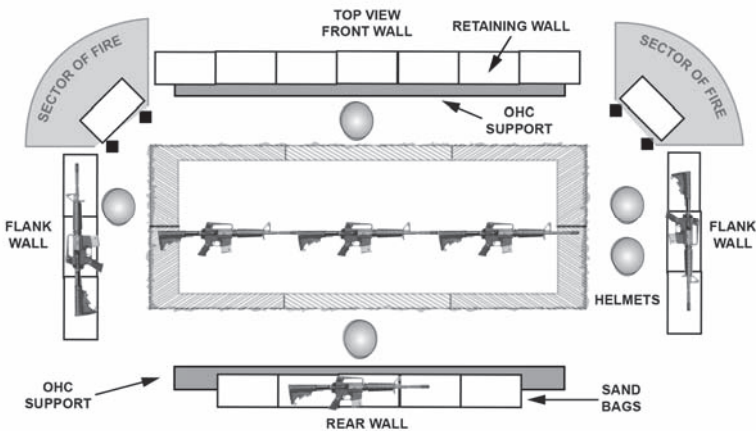

Figure 071-COM-4408-4
(2). Construct stage 2 of a two-man fighting position. (Figure 071-COM-4408-4).